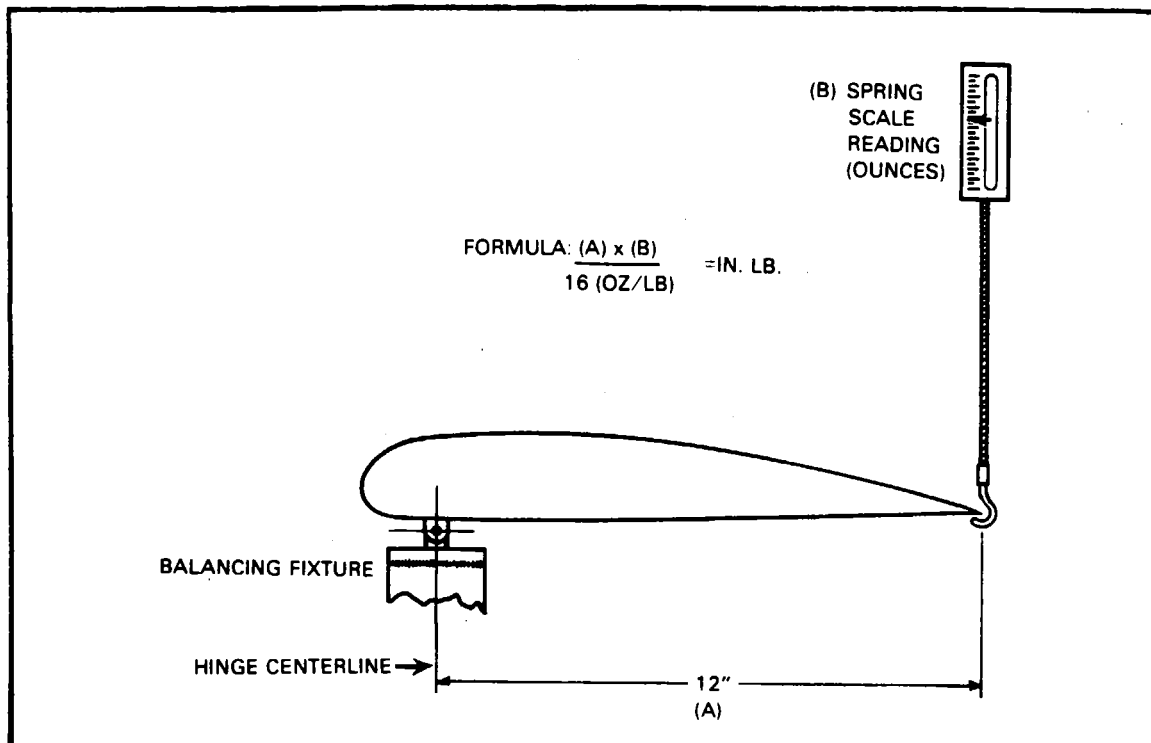

Figure 4-17. Checking Aileron Balance
4-68. BALANCING AILERON. (Refer to Figure 4-17.)
- d. Using the formula (Ref. figure 4-17) determine the aileron underbalance. Desired underbalance (trailing edge heavy) 4 ± 3 inch-pounds.